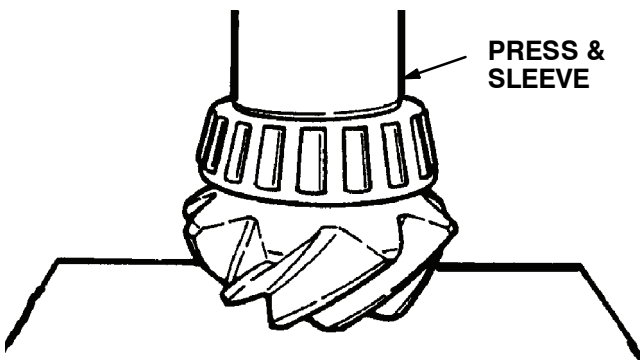

Figure 53.
- (1) Press inner (rear) bearing cone squarely against pinion head. Use a suitable sleeve that will bear against cone (inner) race. Refer to Figure 53.